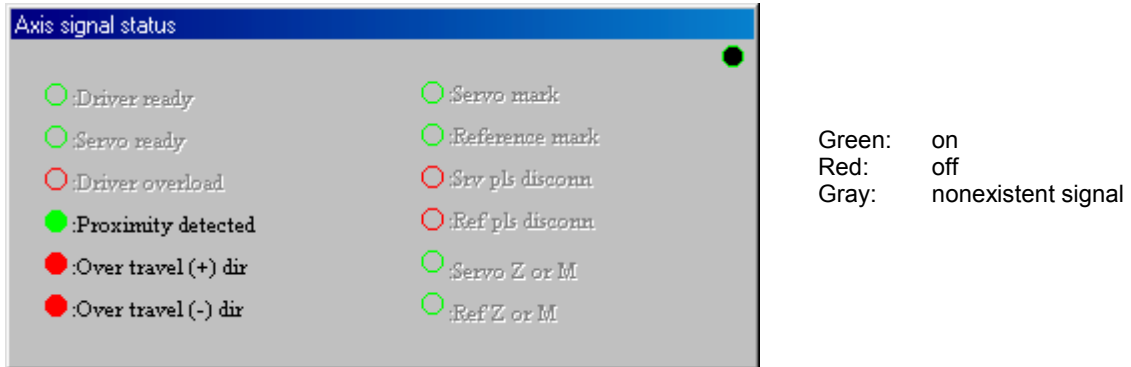

Figure 8.12 “Axis signal status” dialog box
(3) Axis signal status display
In the “Terminal” menu, click “*Axis signal status (A)*” under “Monitor” to display the “Axis signal status” dialog box (see Figure 8.12).